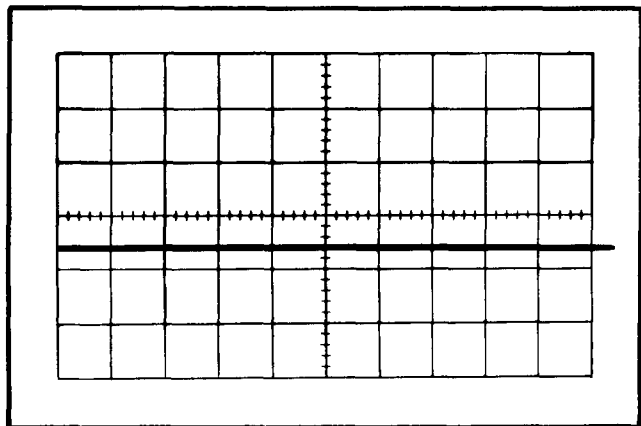

Fig. 5-11. Typical CRT display when checking attenuator isolation ratio and amplifier crosstalk ratio.
e. CHECK—CRT display for 0.1-division deflection, or less (attenuator isolation ratio 10,000:1 or better; see Fig. 5-11).
- j. CHECK—CRT display for 0.1-division deflection or less (attenuator isolation ratio 10,000:1 or better; see Fig. 5-11).